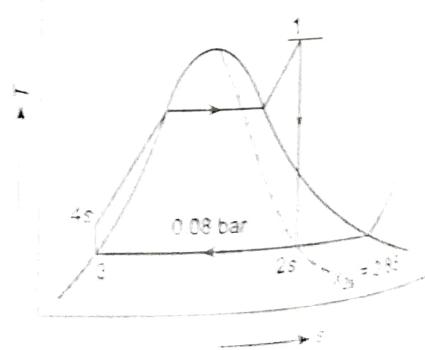

Fig. 12.42
**(M) Example 12.3** A cyclic steam power plant is to be designed for a steam temperature at turbine inlet of  $360^\circ\text{C}$  and an exhaust pressure of 0.08 bar. After isentropic expansion of steam in the turbine, the moisture content at the turbine exhaust is not to exceed 15%. Determine the greatest allowable steam pressure at the turbine inlet, and calculate the Rankine cycle efficiency for these steam conditions. Estimate also the mean temperature of heat addition. [LO 12.2]
**Solution** As for state 2s (Fig. 12.42), the quality and pressure are known.